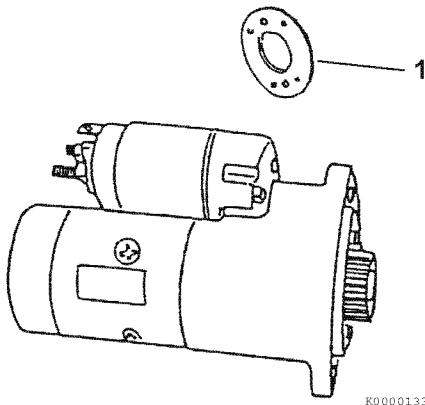

Figure 10-36
5. If the measured L dimension is outside the standard range, adjust the dust covers to obtain the standard range. Dust covers (**Figure 10-36, (1)**) are available in 0.020 in. (0.5 mm) and 0.031 in. (0.8 mm) thicknesses.